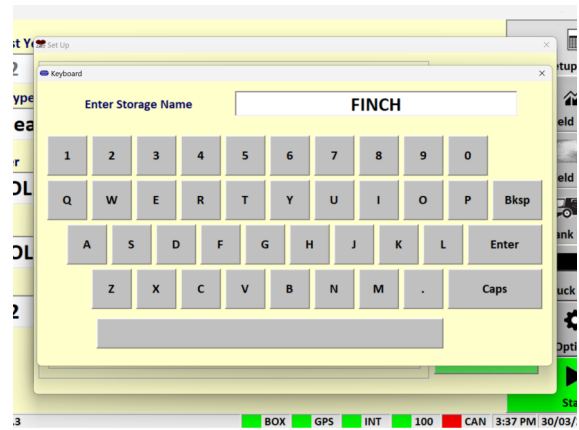

Figure 3.9. Setup - Adding a new storage.
- Press the **Setup** button to access the GPS Message test window as shown in figure 3.9 and 3.10.
- Press **Update GPS Settings** button as shown in figure 3.9 to open the Configuration window.